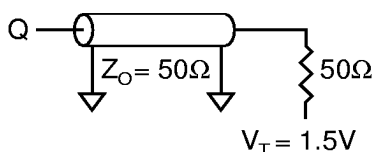
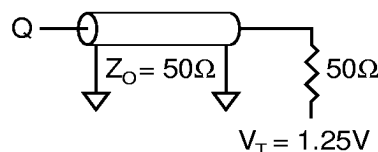

Figure 1
Figure 3
1. Test conditions as specified with the output loading shown in Figure 1 for 3.3V I/O ($V_{DDQ} = +3.3V \pm 0.3V/-0.165V$) and Figure 3 for 2.5V I/O ($V_{DDQ} = +2.5V \pm 0.4V/-0.125V$) unless otherwise noted.
Output load See Figures 1 and 2
Output load See Figures 3 and 4